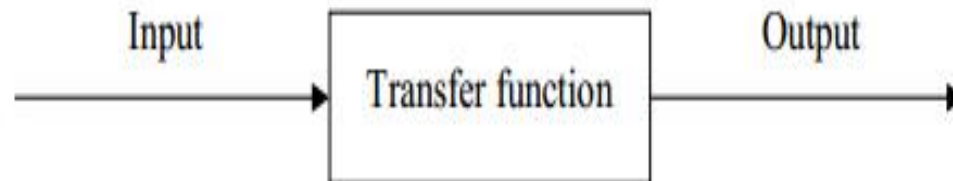

**Fig. 1.5 Transfer function**
***Transfer Function.*** The transfer function is a property of the system elements only, and is not dependent on the excitation and initial conditions. The transfer function of a system (or a block) is defined as the ratio of output to input as shown in Fig.1.5.